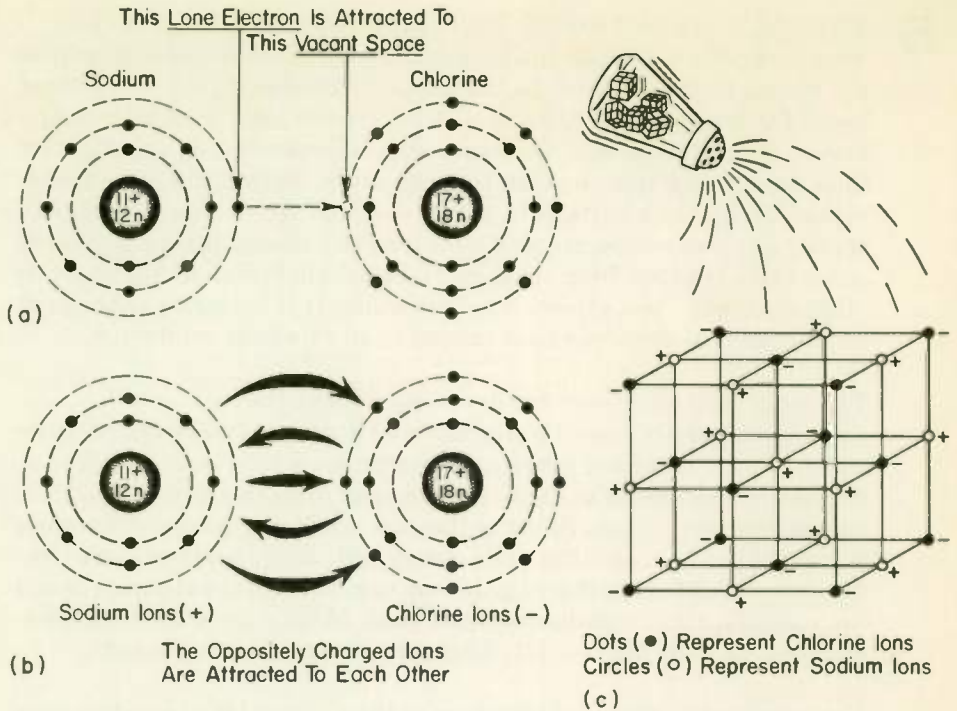

Fig. 3 (a) When a sodium and chlorine atom are brought together, the sodium loses an electron to the chlorine.
Figure 3(a) shows a sodium and a chlorine atom close together. The sodium atom has ⁽⁴⁶⁾_____ electron in its outer orbit. The chlorine atom lacks ⁽⁴⁷⁾_____ electron of having its full complement of eight electrons in its outer orbit. The lone electron in the outer shell of the sodium, being poorly held to its nucleus, is attracted to the chlorine atom to complete its complement of eight in the outer shell. After
this transfer has taken place, the sodium atom is (48) _____ charged, and the chlorine atom is (49) _____ charged. Atoms carrying charges are called (50) _____. The oppositely charged ions are attracted to each other as in Fig. 3(b). The two ions bound together form a particle of sodium chloride, which is ordinary table salt.
If the metal sodium in powdered form is brought into contact with the gas chlorine, the two will react vigorously. This reaction will be accompanied by much heat as the outer orbit electrons of the sodium pass over to fill the vacant spaces in the outer shell of the chlorine atoms. The result of this reaction will be cubical crystals of sodium chloride. Because of the attraction between oppositely charged ions, they rigorously arrange themselves with respect to each other as shown in Fig. 3(c). Notice how each ion is adjacent to an oppositely charged ion on every side.